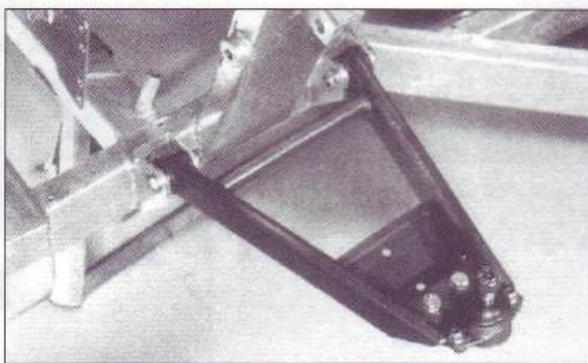

Fig.2d. Fitting packing washers.
3. Fig.2d shows the lower wishbone fully fitted. There should be free movement without any play.